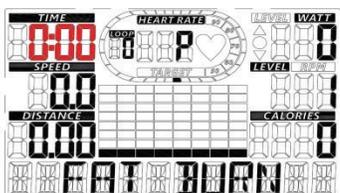

Fig. 21
- (b) To set time, press UP (▲)/DOWN (▼) buttons (Fig. 21). When finish, press “SET” button to confirm and then press “START” to begin the workout.